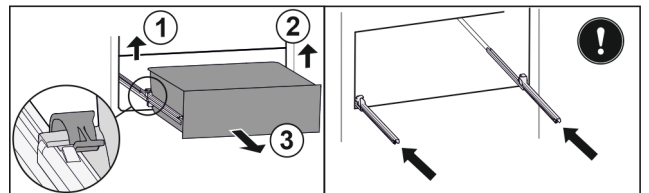

Fig. 99
- ▶ Lift left clamp and simultaneously pull drawer forwards on the left. Fig. 99 (1)
- ▶ Lift right clamp and simultaneously pull drawer forwards on the right. Fig. 99 (2)
- ▶ Remove drawer to the front. Fig. 99 (3)